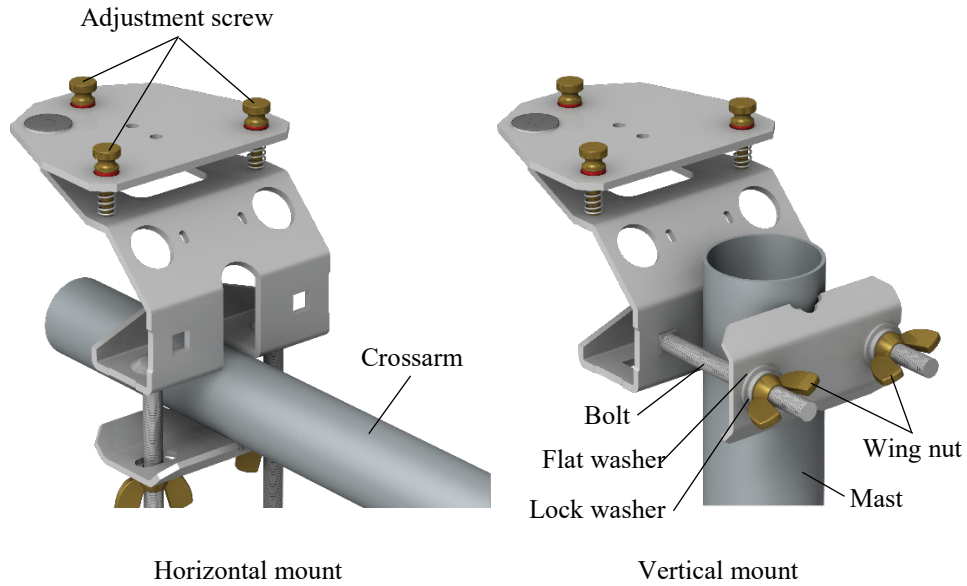

FIGURE 6-5. CM226 showing horizontal and vertical mount options
6. The CM226 uses two bolts, wing nuts, and a clamp piece to secure it to a crossarm or mast (FIGURE 6-5).